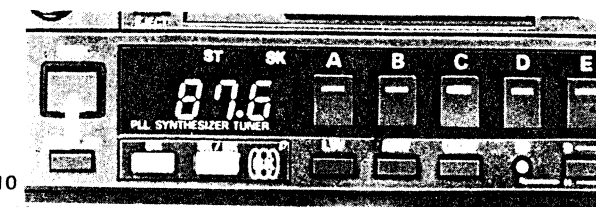

Fig. 10
The "SK" INDICATOR ⑬ will light up when the broadcasting station is tuned in. At the same time, the traffic-information broadcasting station is indicated by a red lamp located on the corresponding DESIGNATED AREA BUTTON ⑮. The tuned in traffic-information broadcast is automatically preset (memorized) on the DESIGNATED AREA BUTTON. (In "SK/BK" mode, the memory "M" BUTTON ⑫ will not function.) (Fig. 10)